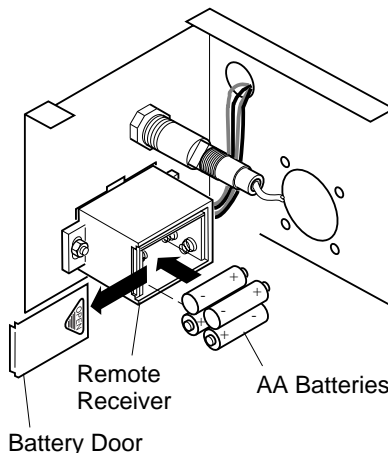

Figure 29 - Installing Battery in Remote Receiver
3. Insert the four AA batteries according to Figure 29.